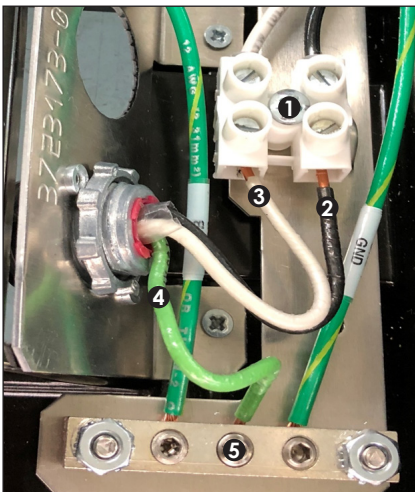

Figure 31: Power Entrance
- d. Terminate the white and black wires to the four-position plastic terminal block. Tighten the wires into place with a flathead screwdriver. Refer to **Figure 31**.
- e. Terminate the green (ground) wire to the three-position metal terminal block. Use a 1/8" Allen wrench to tighten the wires into place. Refer to **Figure 31**.